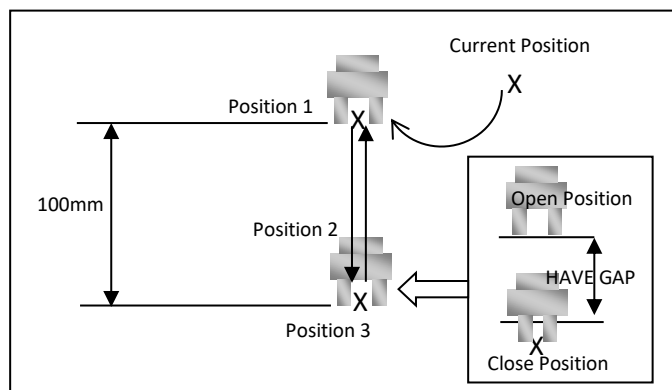

Figure 3
You are required to create a program to move the robot hardware by referring to Figure 3
- ii) Key in the required data as shown in Figure 3.